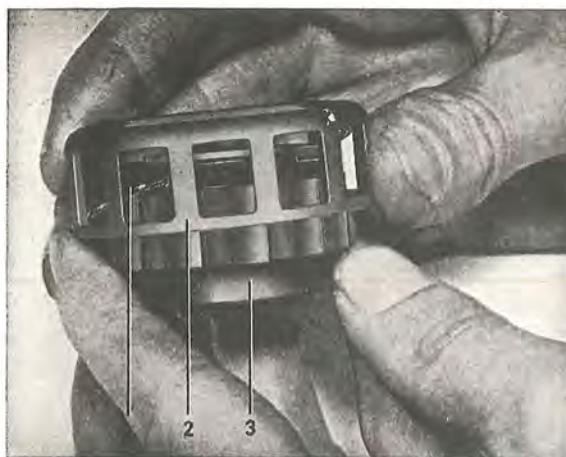

Fig. 4-51. Assembling the uni-directional clutch, I
5. Assemble the uni-directional clutch, spring and roller cage, see Fig. 4-51. Turn the roller cage clockwise as far as it will go and lock it in this position with a key as shown in Fig. 4-52. Place in the rollers. Tie a piece of rubber band or string round the rollers.